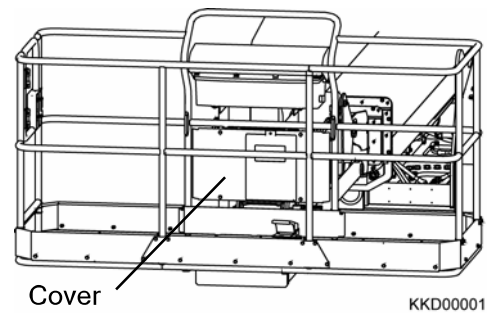

Fig. 2-30
- 4) Take the cover on the platform off. (Fig. 2-30)